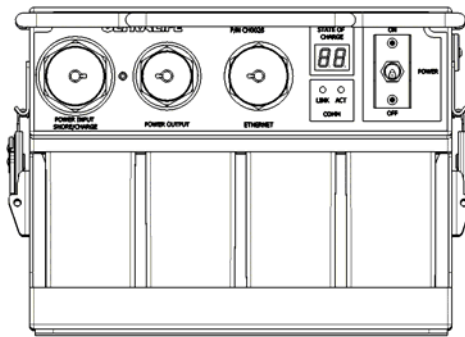

Figure 3-6 Loaded Battery Box
6. The unit can now be placed upright in normal operating position, with the handle up and the non skid pad on the battery tray down to the mounting surface. The front panel with the connectors will now be above the batteries and in front towards the operator. See Figure 3-6 for a front panel overview.